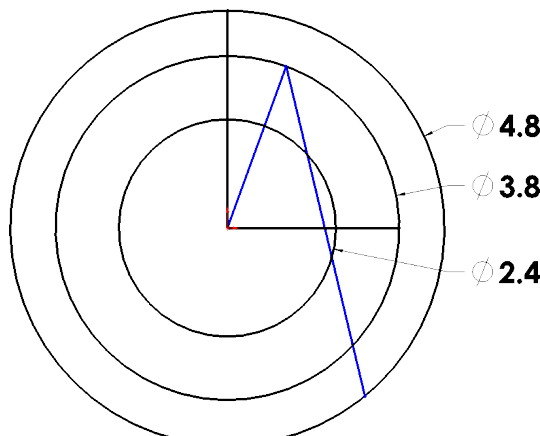

Fig. 3
Step 1. Click **Line** (L) on the Sketch toolbar.
Step 2. Starting from the Origin sketch **two radii** out to the middle circle, keep **one horizontal** and the other **at angle**. Sketch a vertical radii to outer circle. Sketch a line at angle from endpoint of radii to outer circle, **Fig. 3**. To terminate chain, double click back on the line you have just sketched.
Step 3. Click **Smart Dimension** (S) on the Sketch toolbar.
Step 4. Dimension angles **70°** and **8°**, **Fig. 3**.